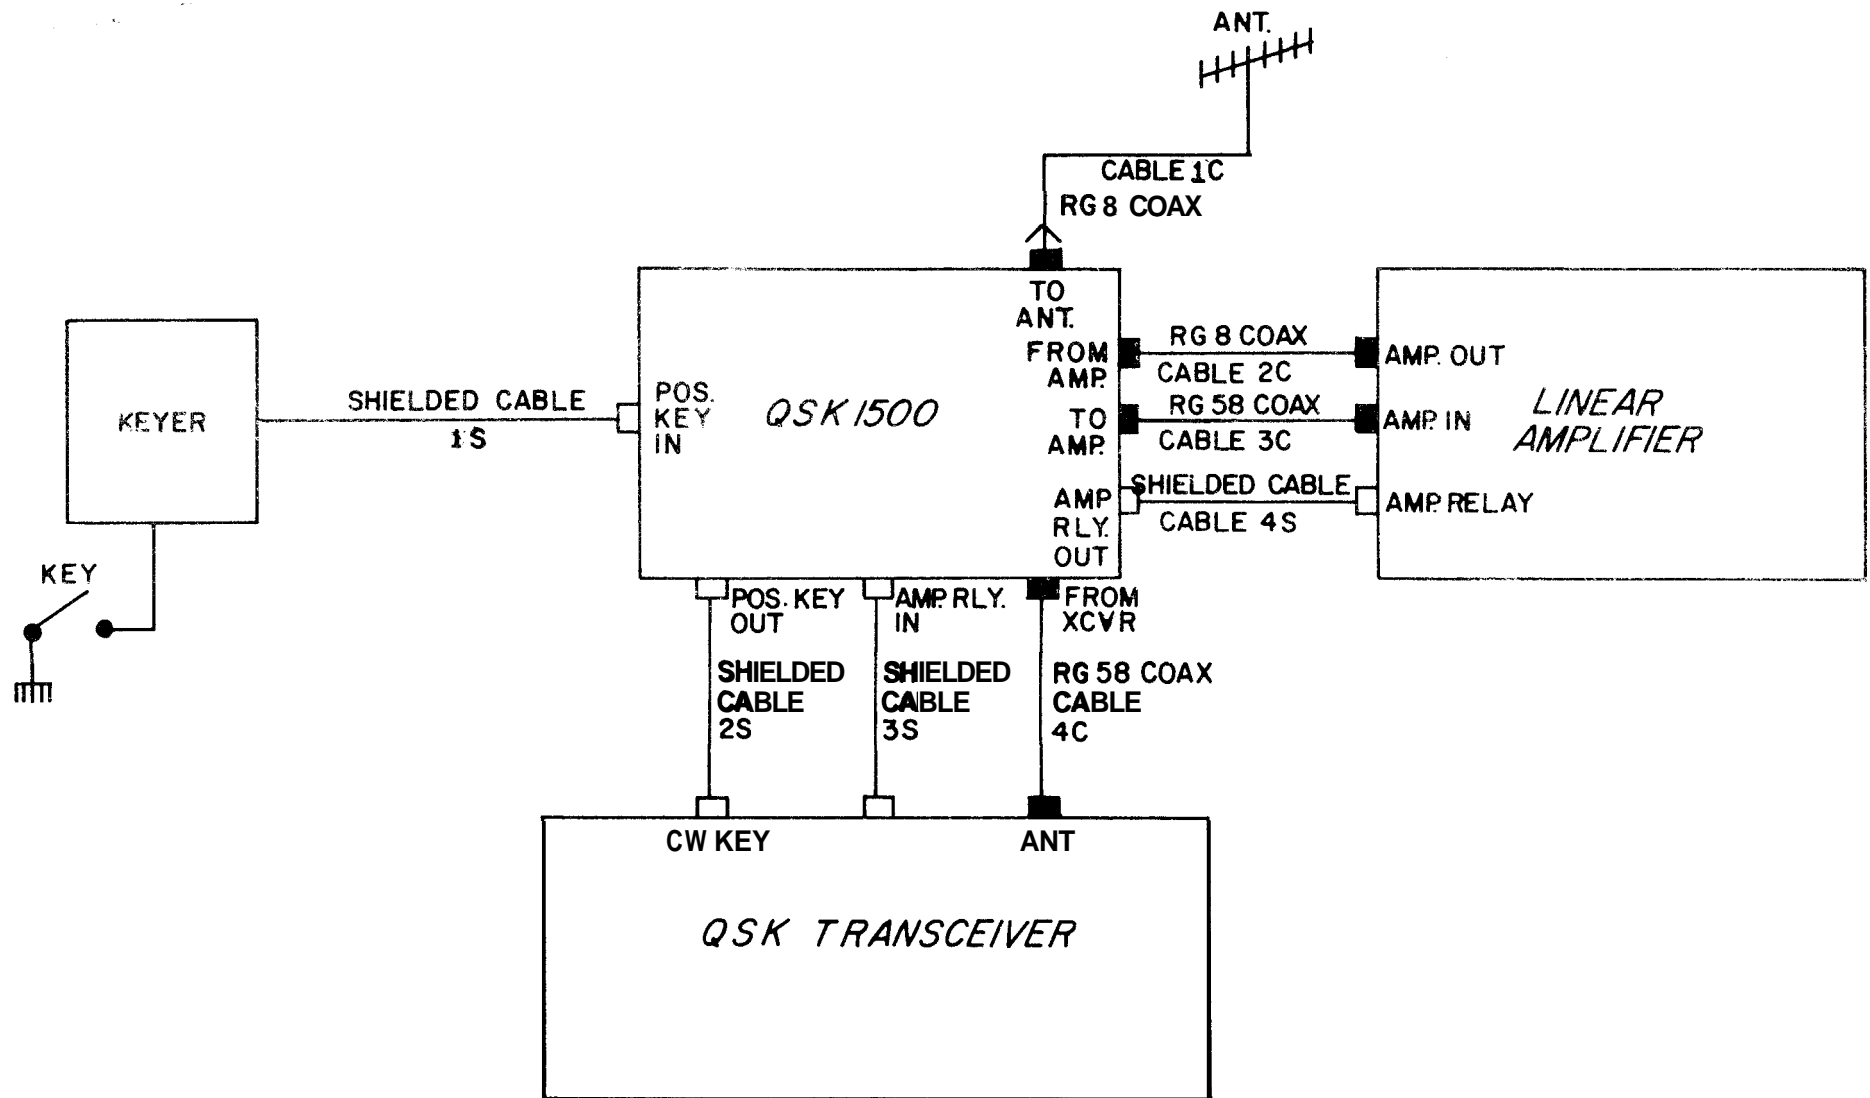

FIG 1
You will now need to construct the control cables for the QSK **1500**. These cables must be made from high quality shielded cable with the proper fitting soldered on each end. In most cases you may be able to use 2 of your existing cables. We suggest that you use RC 58 coax for these shielded cables, unless a higher quality shielded cable is readily available. In **FIG 1** all shielded cables will be designated with a number followed by an "S".
*** CAUTION: Before proceeding check your cable installation and hook up against FIG 1.